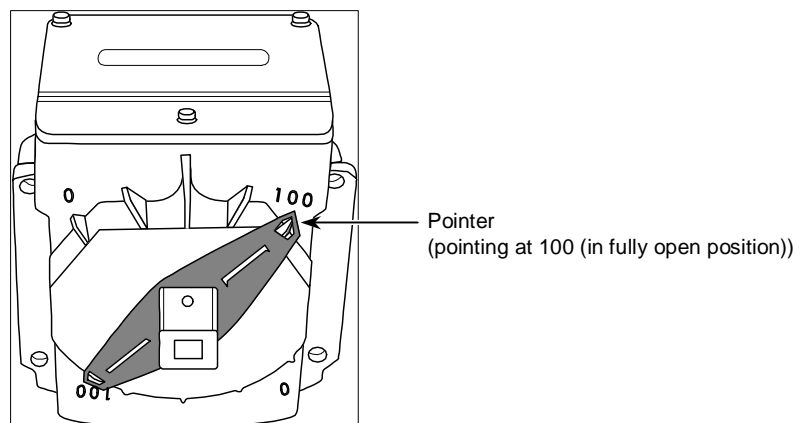

Figure 7. Pointer of the actuator in fully open position
- 3) Make sure that the actuator is in fully open (100 %) position. (The actuator position is preset at 100 % before factory shipment.) As shown in Fig. 7, the pointer on the bottom of the actuator indicates the position. To set the actuator position to 100 %, see **Manually opening/closing the actuator** section.